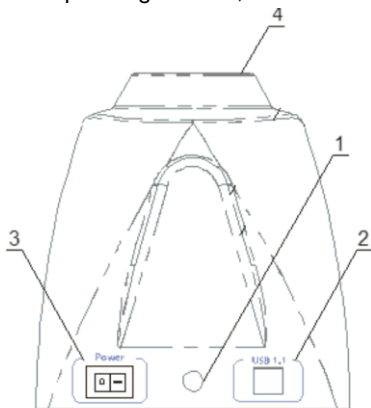

Figure 1. Rear panel
- Connect the external power supply to the socket (fig. 1/1) on the rear side of the unit;
- Connect the USB data cable to the unit (fig. 1/2) and to the personal computer;
- Insert the tube into the socket (fig. 1/4);
6.1. Connect external power supply to electric circuit (fig. 1/1).
6.2. Turn on the unit by pressing the power switch on the rear panel (fig. 1/3).
6.3. Insert the tube into the socket (fig. 1/4).
6.6. After finishing the operation, switch OFF the unit with the Power switch (fig. 1/3).
6.7. Disconnect external power supply from electric circuit (fig. 1/1).